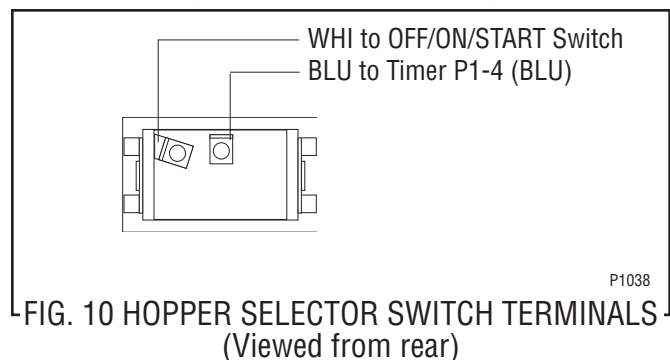

FIG. 10 HOPPER SELECTOR SWITCH TERMINALS
3. Check that the switch is installed properly, FIG. 10.
4. Refer to Fig. 10 when reconnecting the wires.